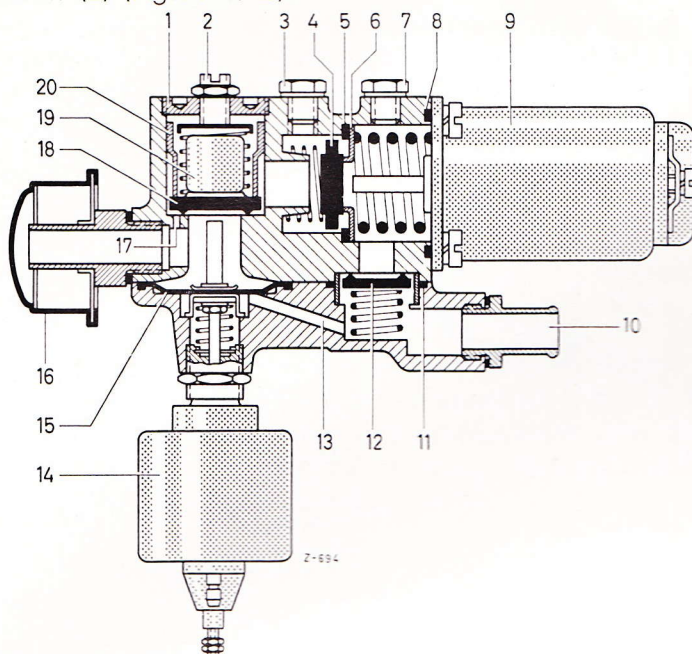

Fig. 25-0/15
The engagement flexibility of the mechanical clutch can be altered by means of the adjusting screw (2) (Fig. 25-0/15).